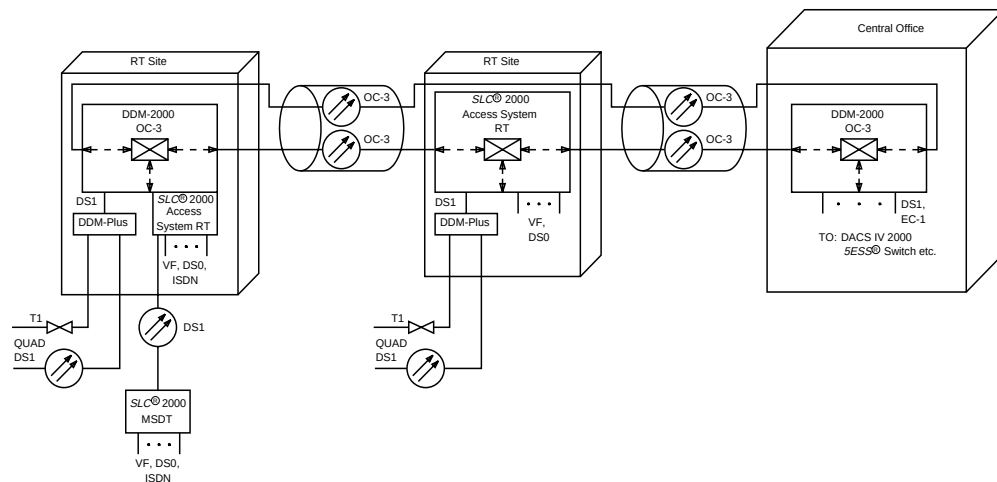

Figure 2-7. Folded Ring Configuration
When route diversity is not available or fiber cable cuts are not a driving concern, the two-fiber path switched ring feature can be applied in a "folded" (a folded ring is a single path ring) configuration (Figure 2-7). This use of DDM-2000 OC-3, OC-12, and *SLC*-2000 access resource manager (ARM) path switched rings applies in particular to hubbing and linear topologies where there is no return path from the end remote site to the central office (CO). While a complete cut through the fiber cable cannot be protected, single-node equipment failures are still protected. Furthermore, a two-fiber ring ARM uses only one optical transmitter/receiver in each direction (two per remote shelf), in contrast to a 1+1 line protection arrangement that requires four optical transmitter/receivers per remote shelf. Thus the ring configuration reduces equipment costs, a benefit independent of its survivability advantage. The ring topology also makes node addition/deletion straightforward.